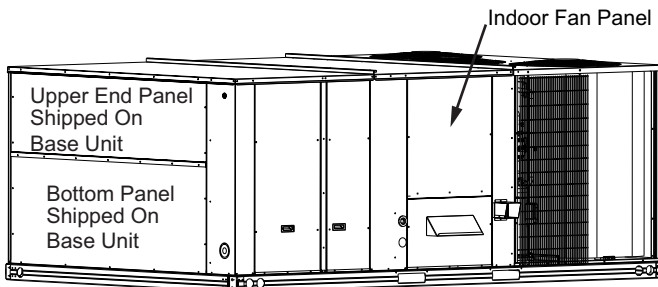

Fig. 1 — Upper and Bottom Panel on End of Unit
3. Remove the upper panel and bottom panel (provided with the HVAC unit) on the end of the unit to expose the return section. Save the screws for later when replacing the bottom panel. The panels shipped with the unit can be discarded. (See Fig. 1.)
3. Remove the upper panel and bottom panel (provided with the HVAC unit) on the end of the unit to expose the return section. (See Fig. 1.) Save the screws for later, when replacing the panel. The panels shipped with the unit can be discarded.